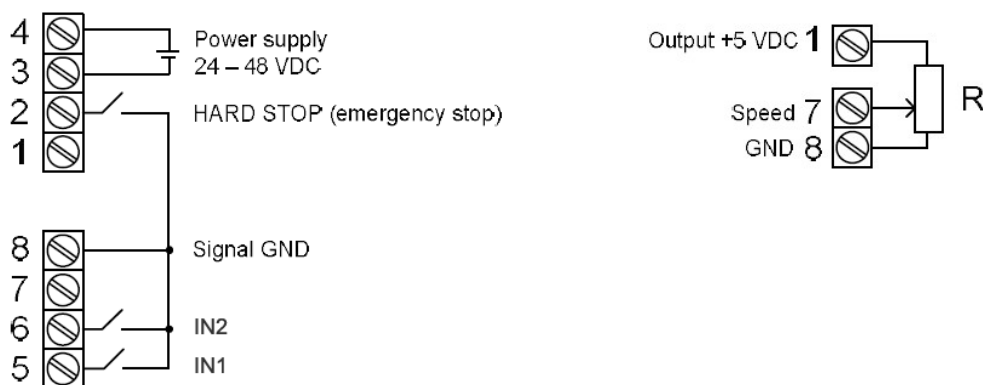

Fig. 3. Connection of power supply and external control elements
2. Connect external control elements according to the connection diagram schemes in Fig. 3: